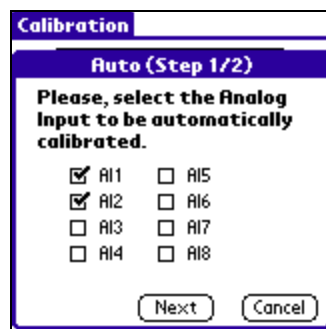

Figure 19
2. Select the desired Analog Inputs (Figure 19).